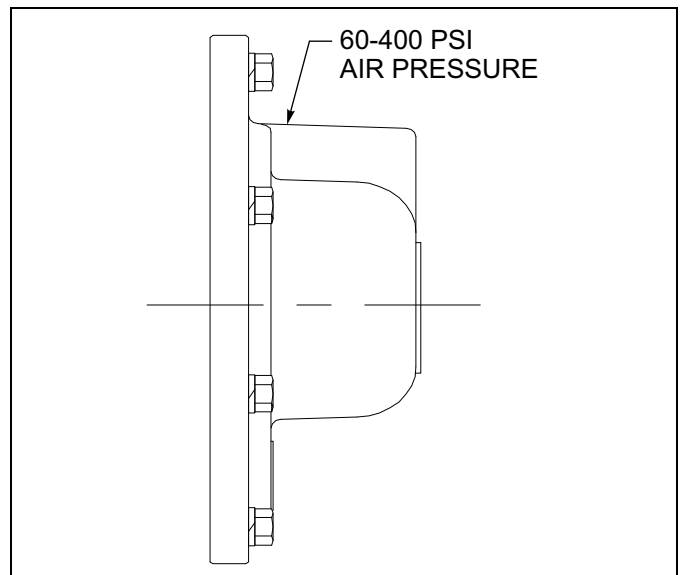

Figure 3-6: DP - Air/Hydraulic Kickout
2. The air freespool clutch is operated by application of air pressure to the fitting supplied on the winch gearbox housing (**See Figure 3-6.**) The fitting is designed to accept 1/4" rigid plastic tubing.